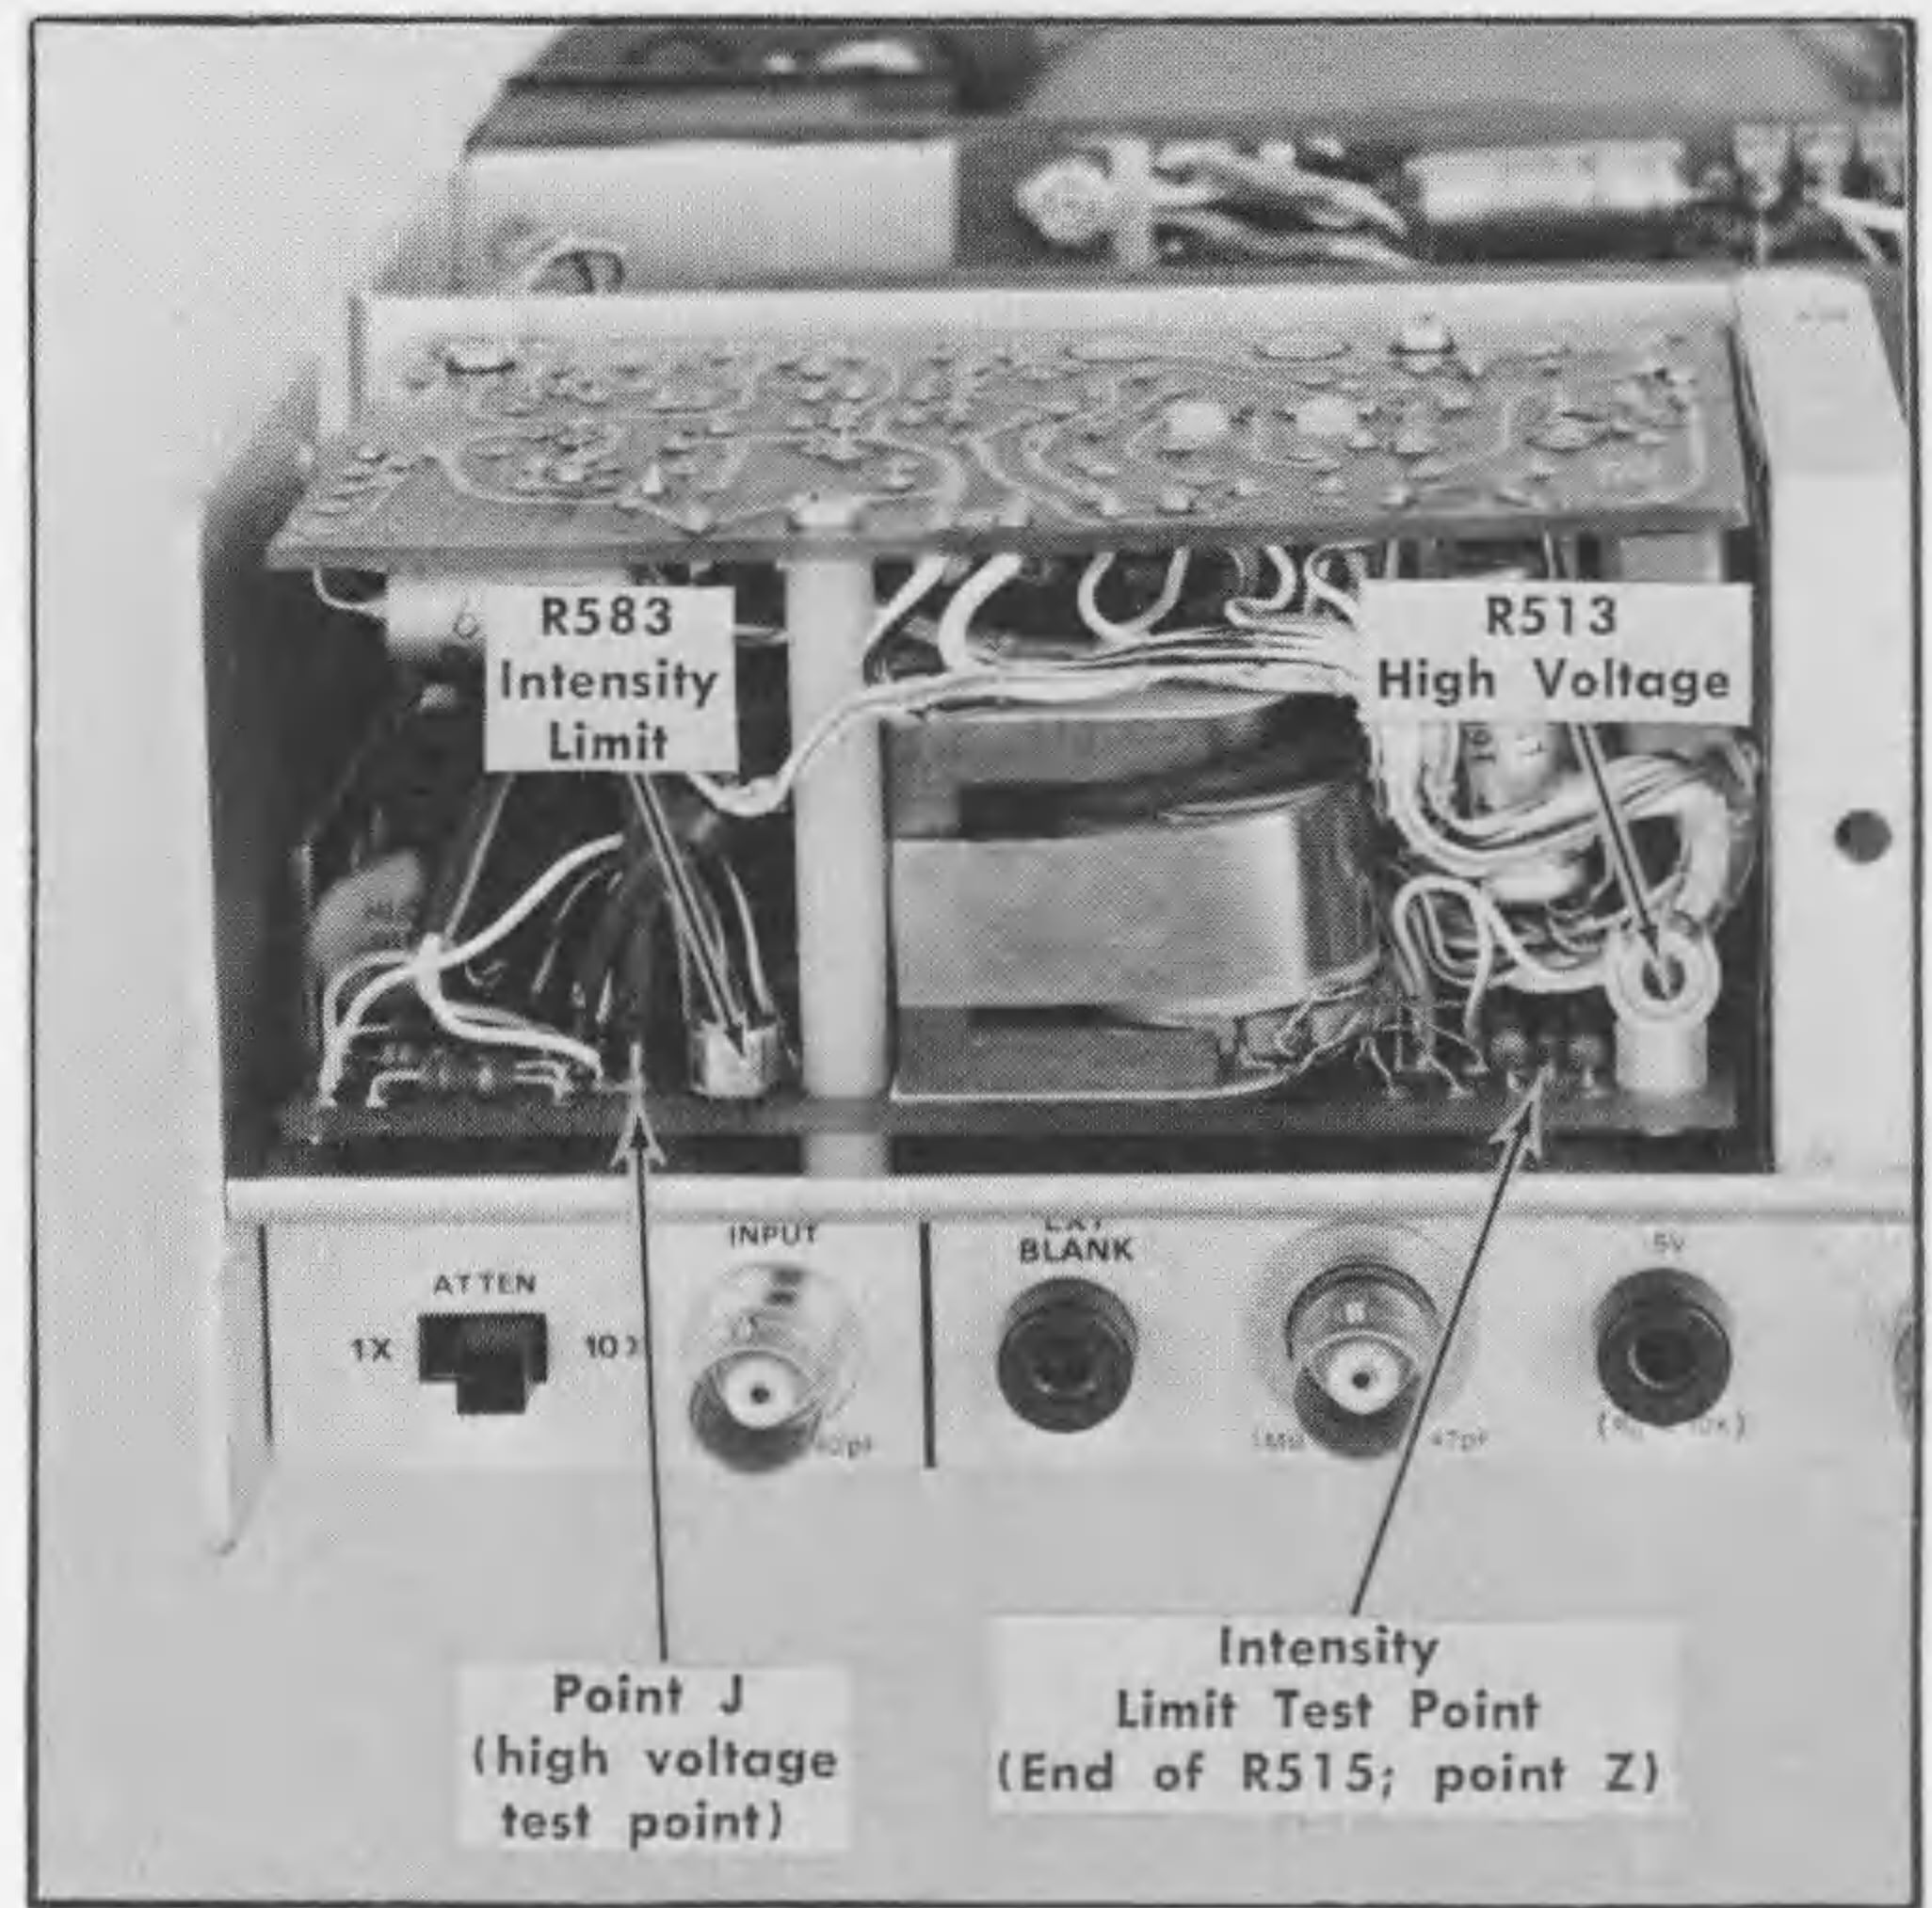

Fig. 5-3. Location of high-voltage test points and adjustments (H.V. Power Supply board).
f. Connect the DC voltmeter (VOM)2 from point J on the H.V. Power Supply board (see Fig. 5-3) to chassis ground.
h. ADJUST—High Voltage adjustment, R513 (H.V. Power Supply board; see Fig. 5-3), for a meter reading of  $-1900$  volts.
a. Connect DC voltmeter (VOM) from the Intensity Limit Test Point on the H.V. Power Supply board (outside end of R515, point Z; see Fig. 5-3) to chassis ground.
d. ADJUST—Intensity Limit adjustment, R583 (H.V. Power Supply board; see Fig. 5-3) for a meter reading of 0.6 volt. If R583 cannot be adjusted to obtain 0.6 volt, R584 may have to be re-selected. If the measured voltage is too low, replace R584 with a smaller value resistor (not less than 1.8 M $\Omega$ ); if the voltage is too high, replace R584 with a larger value resistor (not more than 3.3 M $\Omega$ ). Ideally, a value should be selected (within the prescribed range) which permits a near mid-range setting of R583. If a resistor larger than 3.3 M $\Omega$  is necessary, the CRT should be replaced.